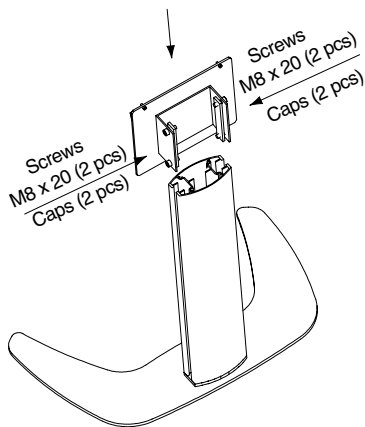

Figure 2
- ② Slide mounting plate down onto column to desired placement. Secure in place using two M8 x 20 screws and two (2) caps per side (see Fig. 2). Use plastic covers to hide screw caps.